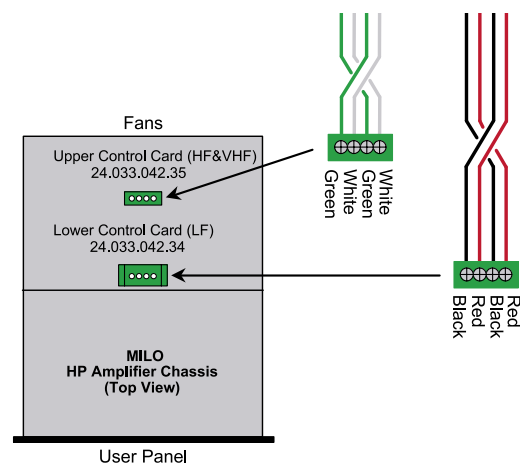

Figure A.4: MILO's two 4-pin connectors
3. Disconnect the two 4-pin loudspeaker connectors. Note that the harness with red and black wires goes to the connector closest to the user panel, while the harness with green and white cables goes to the connector closest to the fans (Figure A.4).